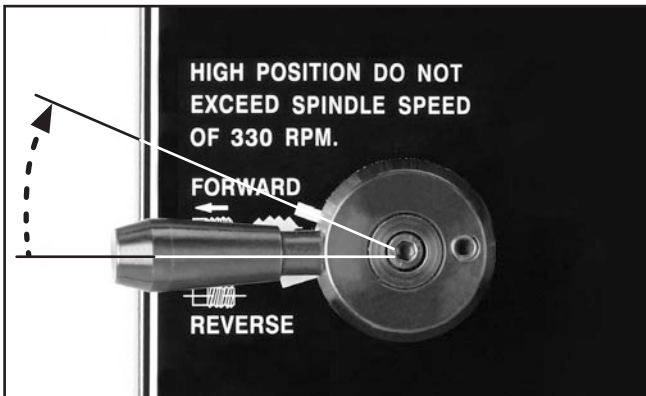

Figure 22. Feed forward/reverse lever.
5. Move the feed direction forward/reverse lever (**Figure 22**) to FORWARD.